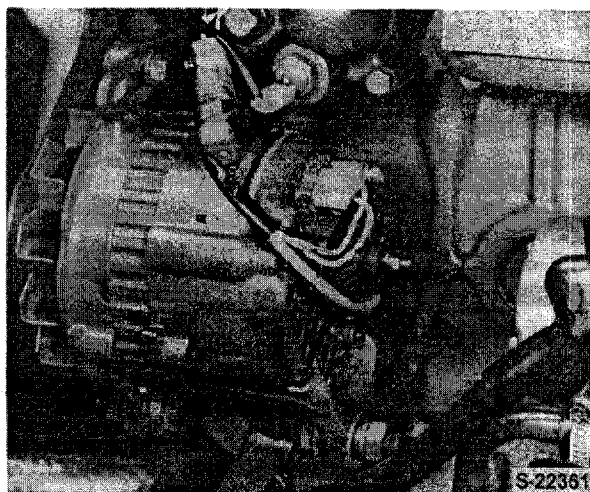

Figure 32
3. Remove the alternator assembly, Figure 32.